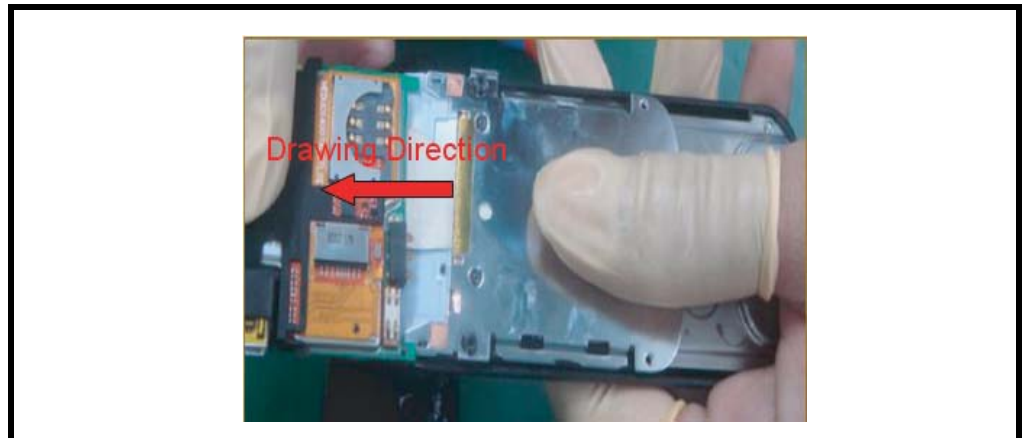

Figure 13. Slide the Hinge
3. Slide the hinge around 1 cm then pull the Main PCBA to the direction as Figure 13.